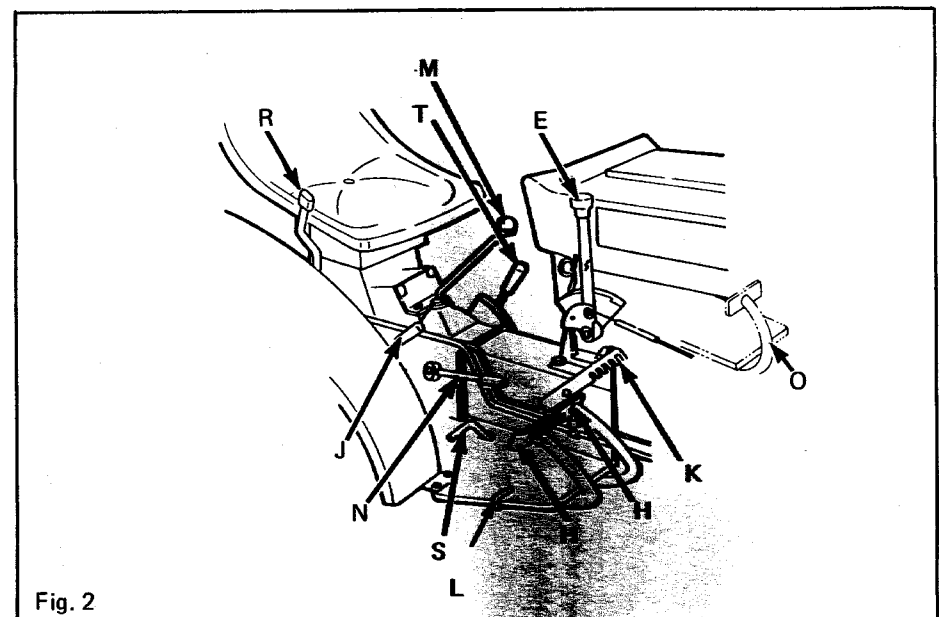

Fig. 2
Figure 2 - is used to select ground speeds of 3 forward, reverse and neutral. A gear pattern diagram is located on the transmission cover. Tractor must be stopped to make gear selection.
Figure 2 - provides 6 forward and 2 reverse speeds by doubling each of the speeds in the main transmission. Stop tractor motion, move lever forward for high range and rearward for low range.
Clutch pedal (O) Figure 2 - controls clutch. Depress pedal to end of travel to disengage clutch.